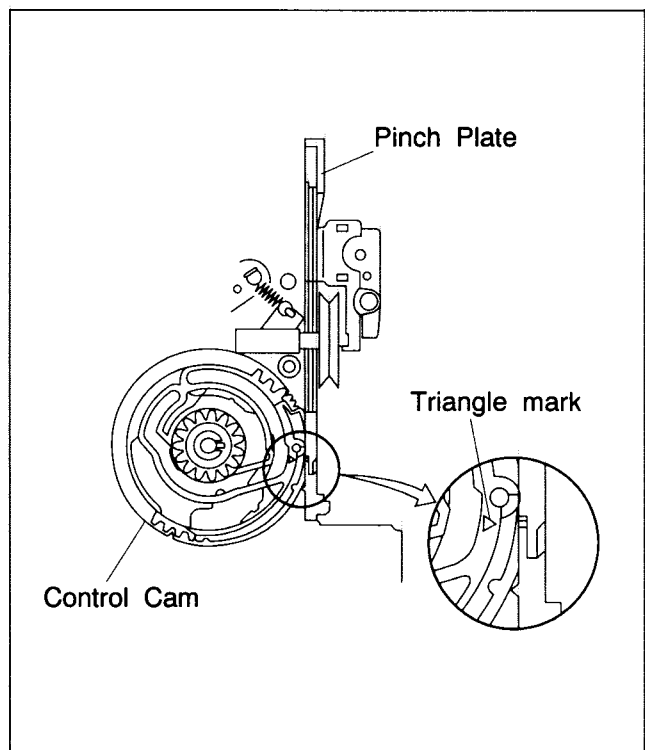

Fig. 2-5-6
- (1) When installing pinch plate, align rack of pinch plate and triangle mark of control cam as indicated in Fig.2-5-6.